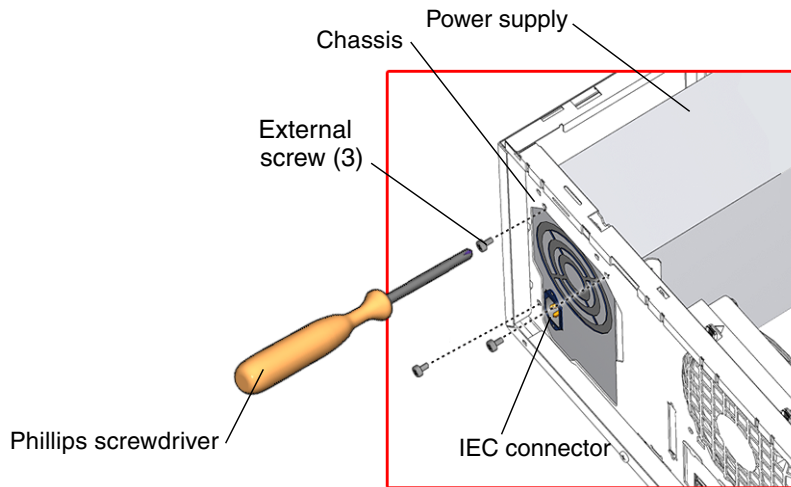

FIGURE 13-4 Power Supply External Screws
9. Remove the three external power supply screws (FIGURE 13-4).